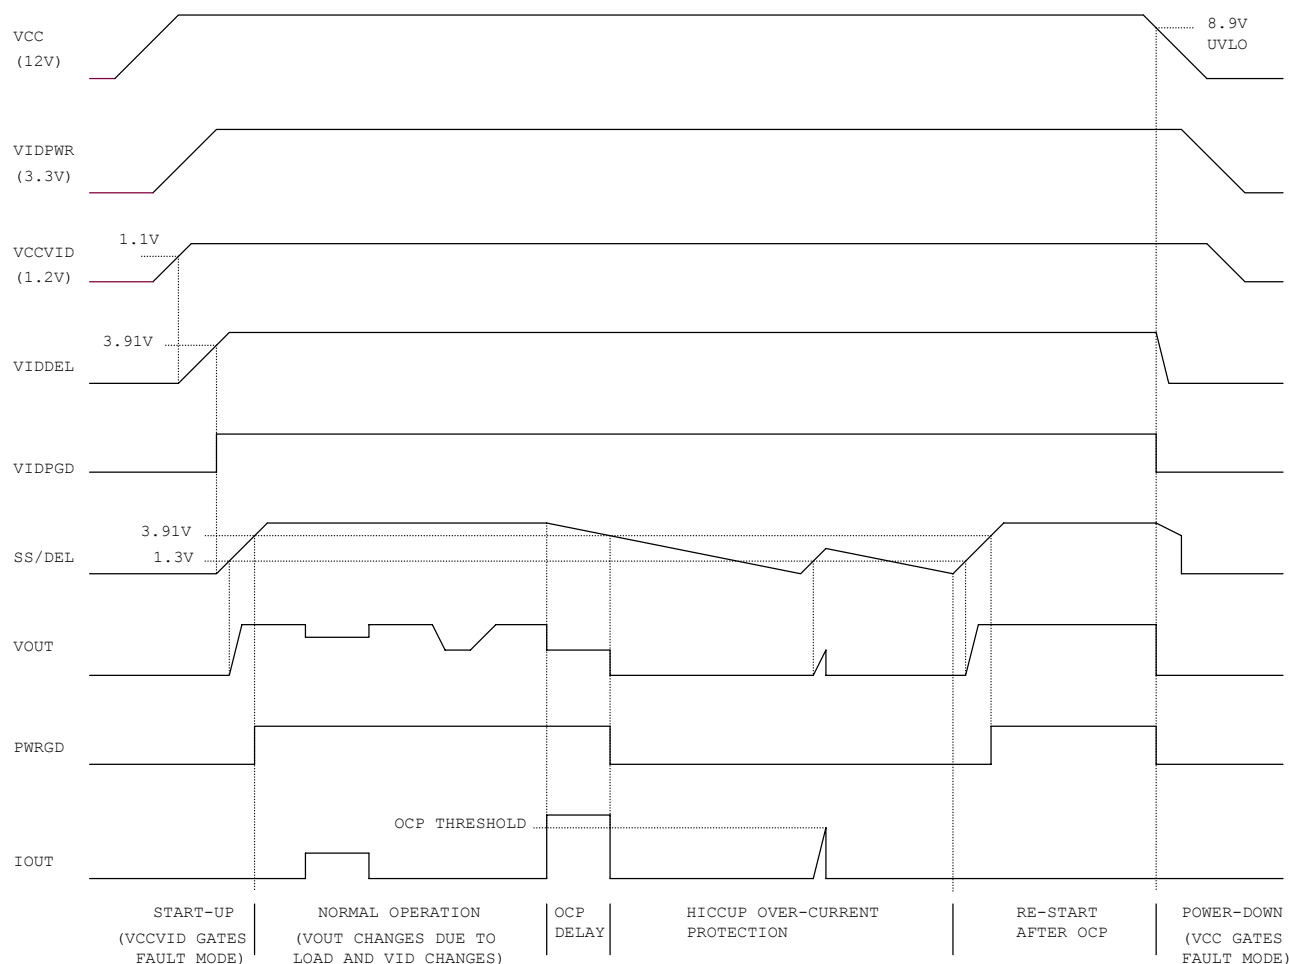

Figure 11. Operating Waveforms
Figure 11 depicts the various operating modes as controlled by the SS/DEL function. If there is no fault, the SS/DEL capacitor pin will begin to be charged. The error amplifier output is clamped low until SS/DEL reaches 1.3V. The error amplifier will then regulate the converter's output voltage to match the SS/DEL voltage less the 1.3V offset until it reaches the level determined by the VID inputs. The SS/DEL voltage continues to increase until it rises above 3.91V and allows the PWRGD signal to be asserted. SS/DEL finally settles at 4V, indicating the end of the soft start.
The SS/DEL pin voltage controls the slew rate of the converter output voltage, as shown in Figure 11. After the VIDDEL pin voltage rises above 3.91V, there is a soft-start delay time t_{SSDEL} , after which the error amplifier output is released to allow the soft start. The soft start time t_{ss} represents the time during which converter voltage rises from zero to V_O . t_{ss} can be programmed by an external capacitor, which is determined by Equation (2).